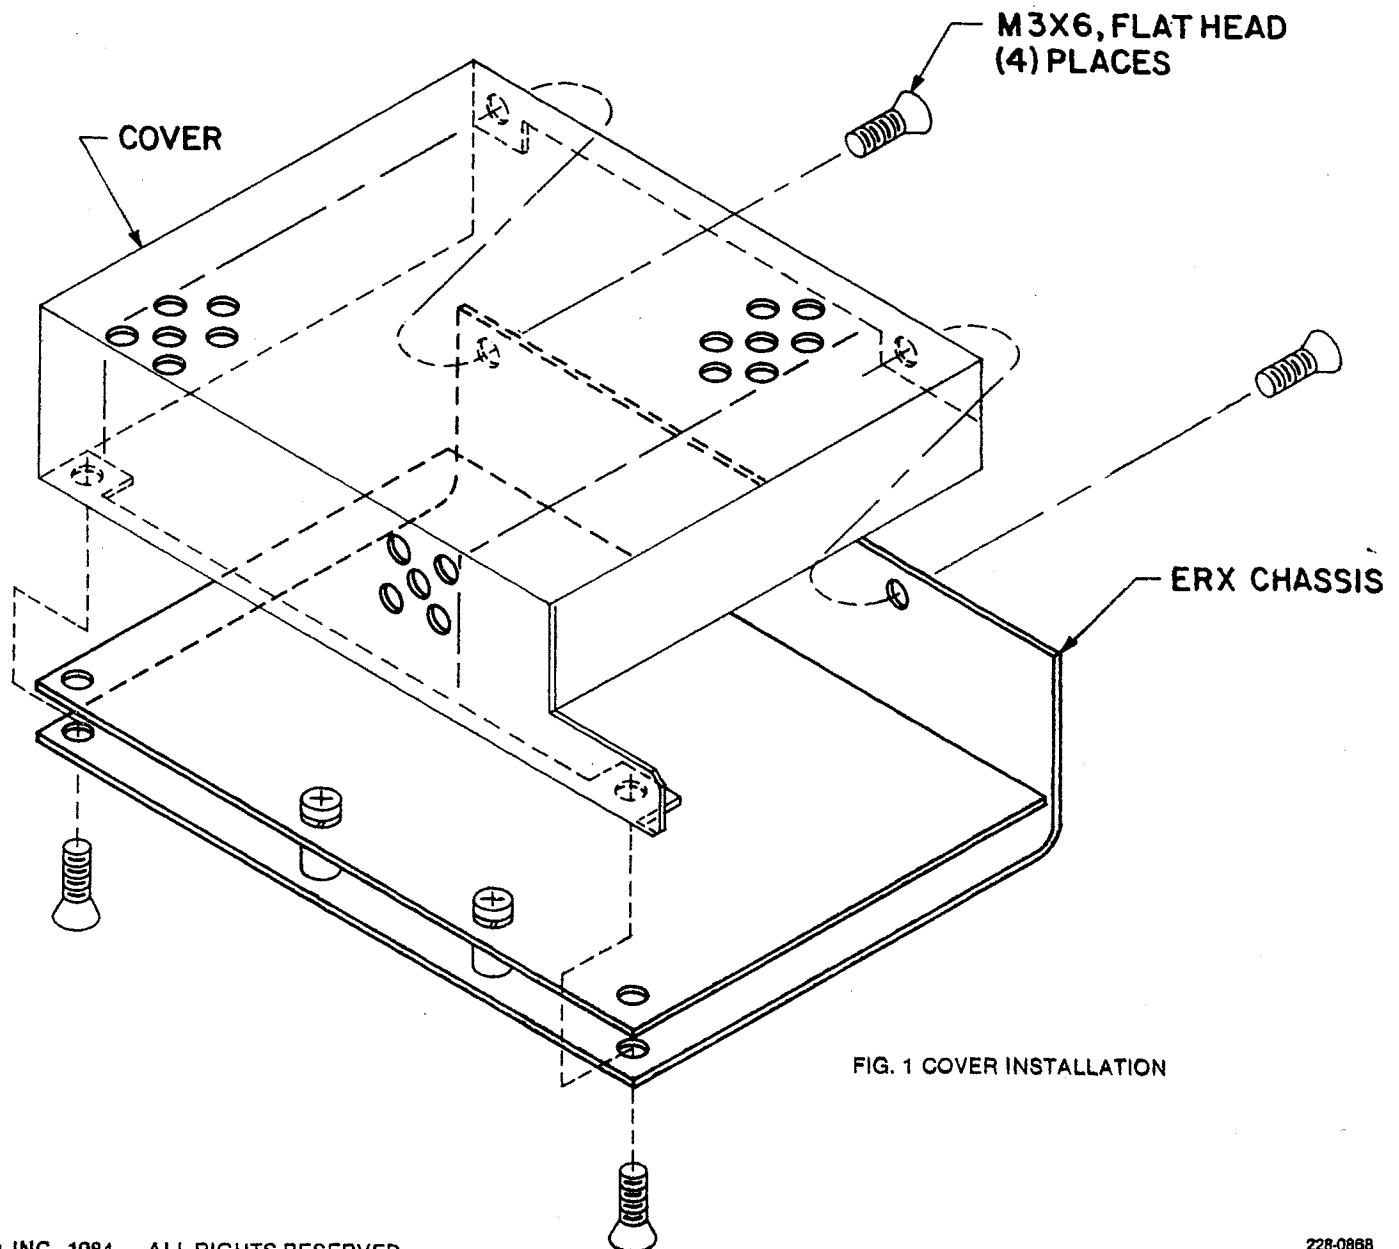

FIG. 1 COVER INSTALLATION
**DESCRIPTION.** The Kepco Model CA-15 COVER is designed to provide shielding and protection for the Kepco ERX 30W Series of switching power supplies. These finished steel covers have four (4) mounting threads and are easily installed, using the predrilled, counter-sunk mounting holes on the ERX chassis, as shown in FIG. 1.
- 1) Slip the cover over the ERX chassis as shown in FIG. 1.
- 2) Place the four (4) mounting screws, contained in the plastic bag delivered with the cover, through the counter-sunk holes in the ERX chassis and hand-tighten the screws.